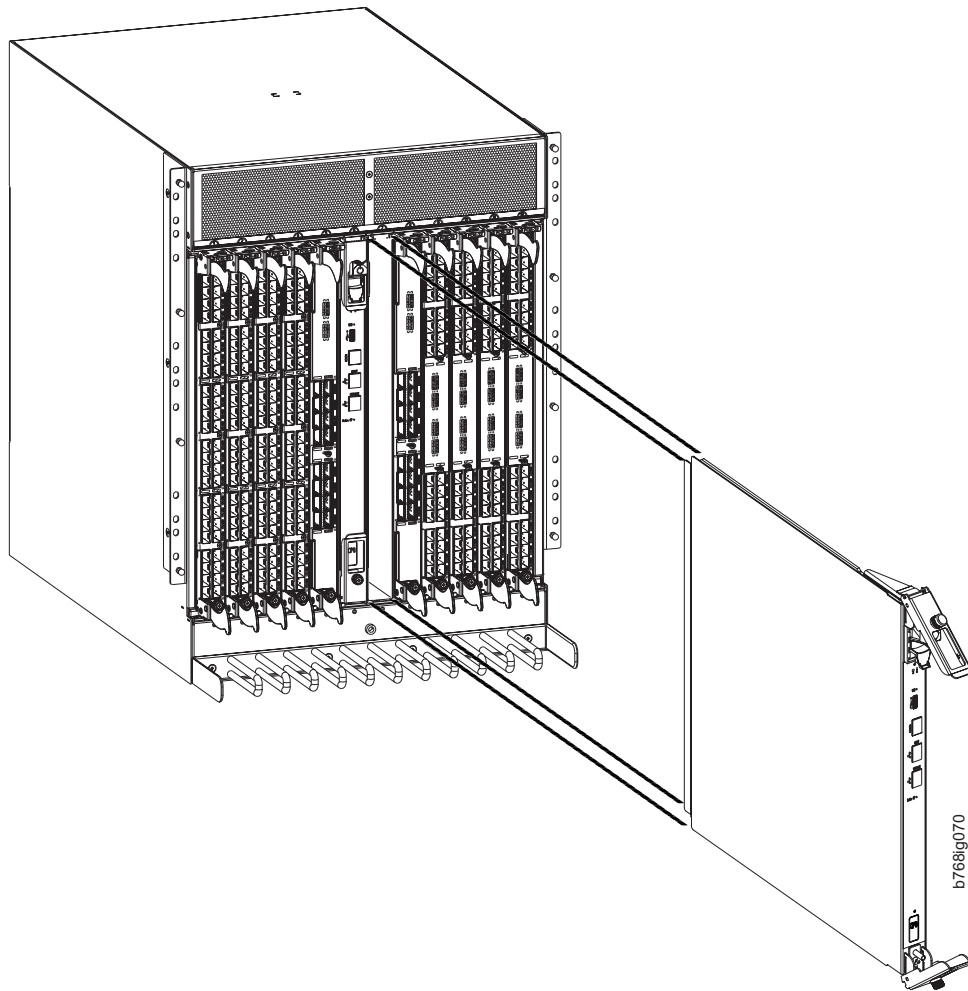

Figure 33. Removing the control processor (CP8) blade
8. Lever open both ejector handles simultaneously to approximately 45 degrees and pull the CP blade out of the chassis (see Figure 33 on page 92).